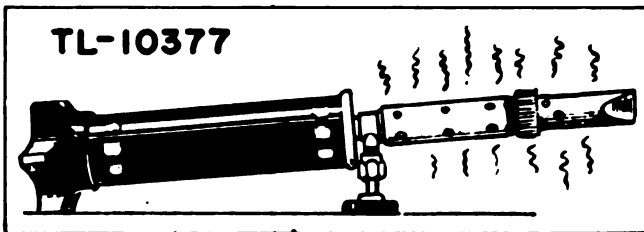

Figure 86
d. If iron starts with weak flame, the flame will gradually increase a few minutes after iron becomes heated. In the event that the iron should sputter or go out after priming, this may be caused by the priming cup being over-filled, causing over-generation of gas. Reduce flame for a few minutes by turning regulating valve until proper pressure is obtained (Fig. 86).